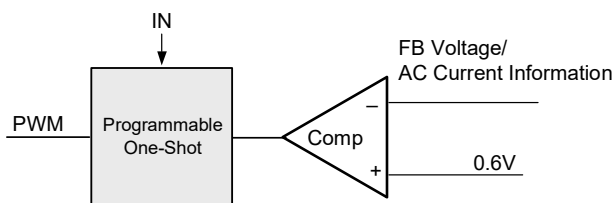

Figure 3. Simplified Control Schematic of AOZ2261NQi-12
The simplified control schematic is shown in Figure. 3. The high-side switch on-time is determined solely by a one-shot whose pulse width can be programmed by one external resistor and is inversely proportional to input voltage (IN). The one-shot is triggered when the internal 0.6V is higher than the combined information of FB voltage and the AC current information of inductor, which is processed and obtained through the sensed lower-side MOSFET current once it turns-on. The added AC current information can help the stability of constant-on time control even with pure ceramic output capacitors, which have very low ESR. The AC current information has no DC offset, which does not cause offset with output load change, which is fundamentally different from other V^2 constant-on time control schemes.